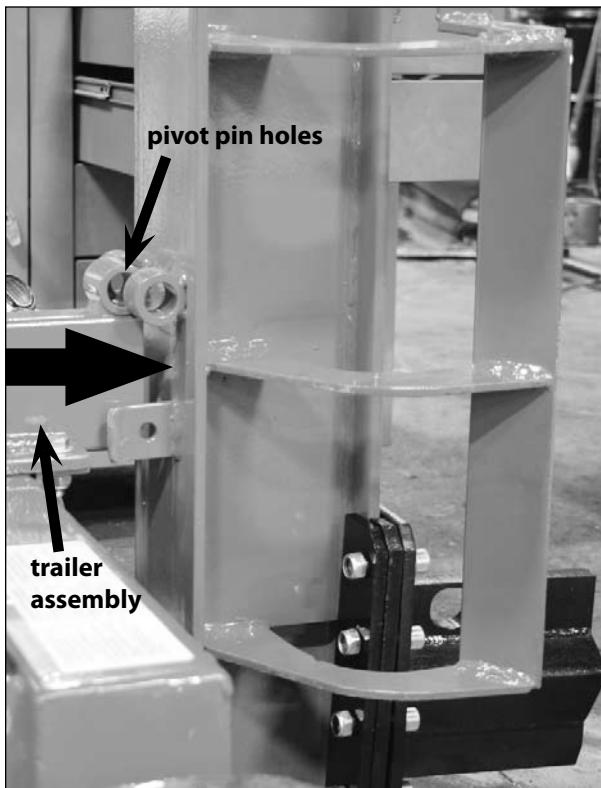
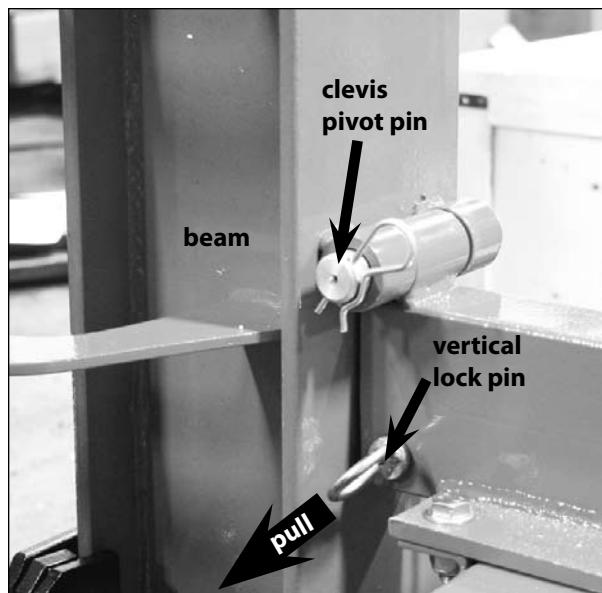

Figure 7
Figure 8
11. Slide the splitting wedge on the beam all the way to the end of the beam against the splitting foot. Stand the beam vertically on its splitting foot so the splitting wedge is pointing downward. Back the trailer assembly into the beam so that the pivot pin holes on the beam and trailer assembly are aligned with one another. **SEE FIGURE 7**. The spring loaded lock pin that is on the tongue, underneath the pivot pin hole, will need to be pulled back to allow the pivot pin holes to line up. **SEE FIGURE 8**. Insert the large clevis pin through the aligned pivot pin holes on both the tongue and beam, and secure in place with the corresponding hair pin. **SEE FIGURE 8**.